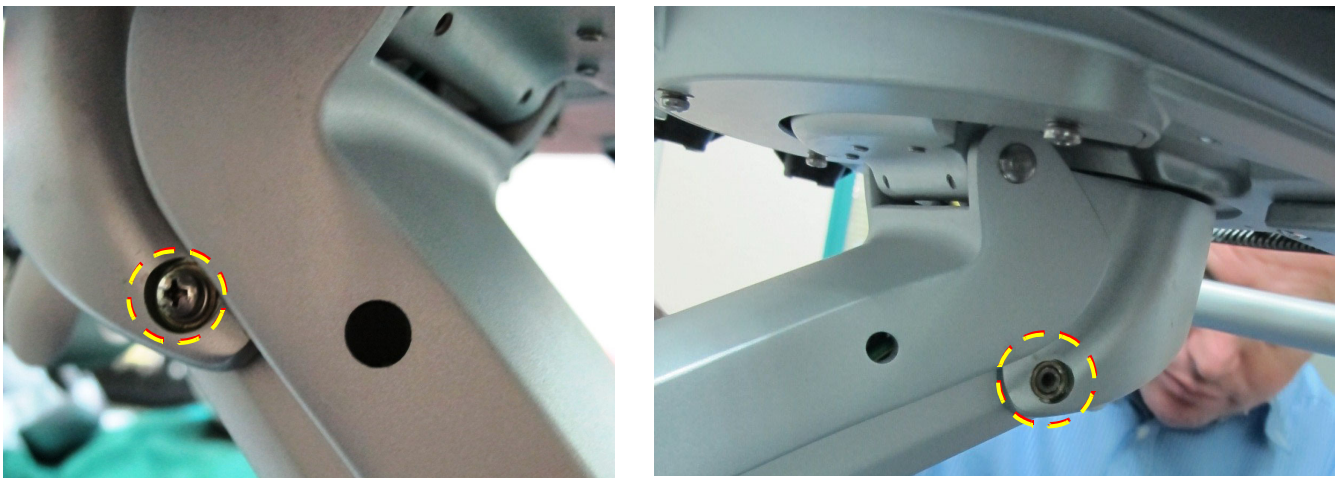

Figure 8-103 Removing Screw on Left Side of Lower Arm
- 3.) Loosen and remove the screw that is located at the base of the Operating Panel (below the keyboard), as shown in Figure 8-103 below.
- 7.) Return and fasten the screws (previously removed from the base of the Operating Panel - below the keyboard, as shown in Figure 8-103 "Removing Screw on Left Side of Lower Arm" on page 8-114).